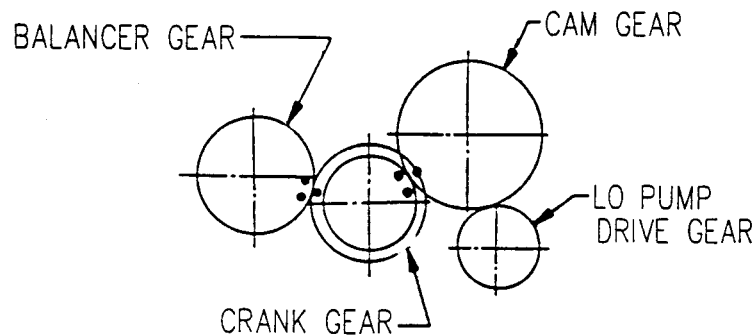

Figure 5-19. Aligning Timing Marks
- (3) Position fuel injection pump tappet and valve tappets in cylinder block.
- (4) Carefully install camshaft in cylinder block.
- (5) Align timing marks on gears (Figure 5-19).
- (6) Install fuel injection pump, refer to paragraph 5.15.c.
- (7) Install cylinder head assembly, refer to paragraph 5.13.c.
- (8) Install crankcase cover, refer to paragraph 5.16.c.